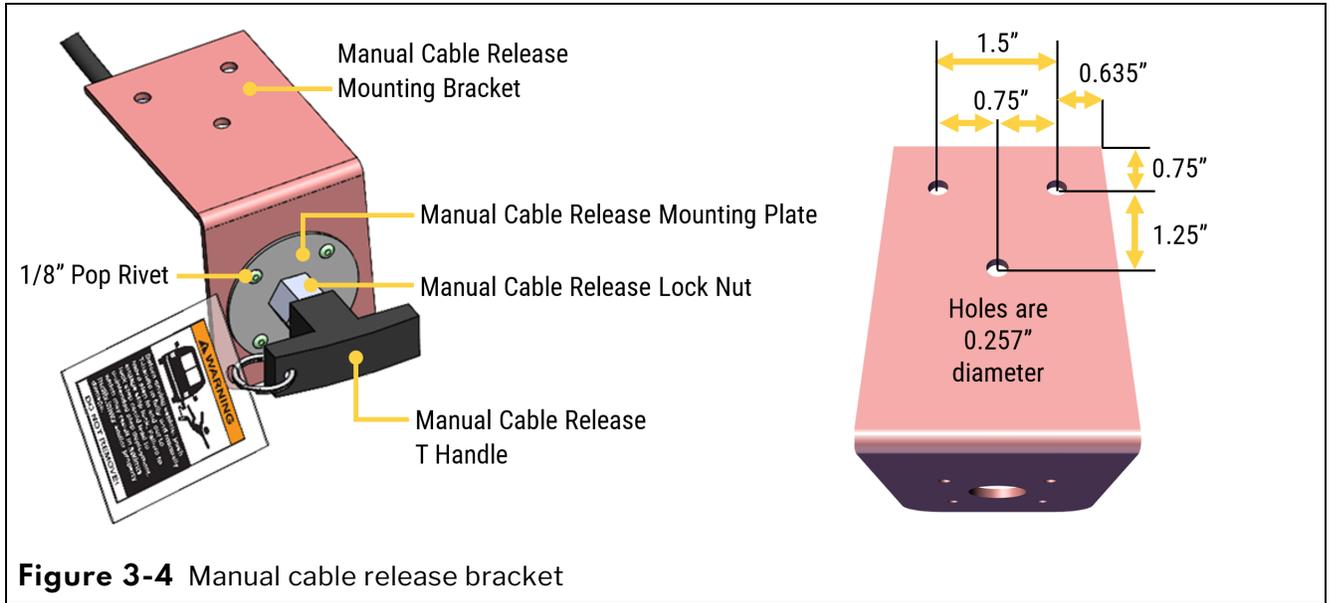

Figure 3-4 Manual cable release bracket
2. Mount manual release cable handle as required. Refer to Figure 3-4 below